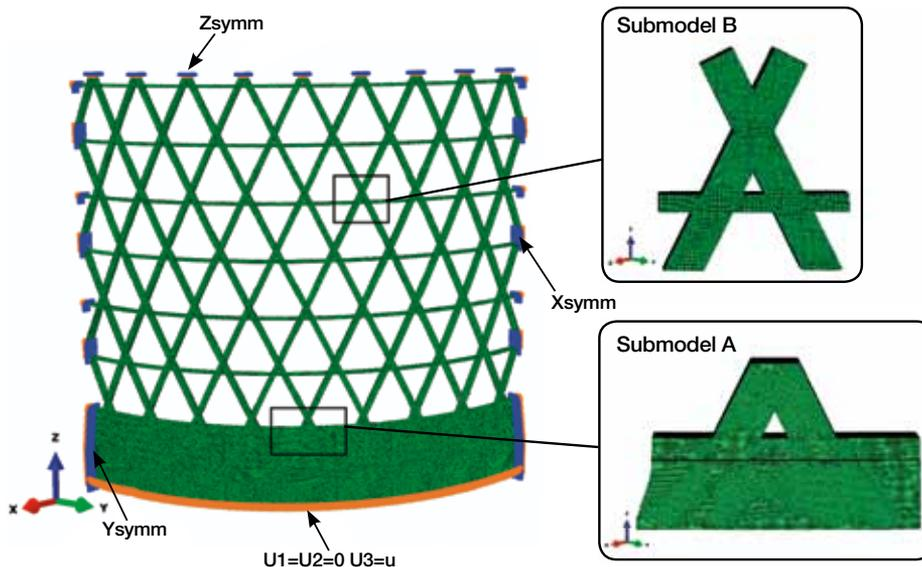

Figure 2. Solid model and submodels to analyze the failure mechanisms of the cylindrical lattice.
Figure 2. Abaqus eXtended Finite Element Method (XFEM) shows a progression of increasing crack growth (left to right), starting in the area of interest on the process vessel's skirt support expansion joint. Dominant circumferential stresses cause a crack to form at the end of the expansion joint. Due to uneven stress in the frame connector above the joint, the crack grows more rapidly on the outside than on the inside of the connector.
team used the XFEM capability in Abaqus coupled with contour integral calculations. "The XFEM method makes it possible to study crack growth across elements in a way not possible before," said Schulz. "The contour integral calculation gives us the ability to analyze stress intensity values for a series of crack depths and shapes." These analyses showed that the greatest stress occurs when the vessel is most rapidly heating up, the stress decreases with increasing crack depth, and the crack grows more rapidly on the outside than the inside of the frame connector (Figure 2).
The second part of the virtual testing procedure consisted of the lattice structure testing simulation to predict the mechanical behavior of the real structure. Due to the size differences between the large-scale structure and the local interactions, the virtual testing was divided into two analyses. A Finite Element (FE) model composed with beam elements (Figure 1) assessed the global structural response—natural frequency and buckling load, while the local failure was obtained with a FE model including solid elements only. In this case, a global model provided the displacements to a local submodel that assessed the failure criteria (Figure 2). The intralaminar failure was calculated with LaRC-04 failure criteria, which account for different composite failure mechanisms and consider nonlinear shear behavior and in-situ effects. The possible adhesive peel-off between the lattice part of the structure and the extreme load interfaces was also analyzed through the following procedure: 1) Determine critical zones using a stress-based criterion, 2) Apply the Virtual Crack Closure Technique (VCCT) with a pre-crack with the measure of the minimum detectable defect and 3) Run a nonlinear analysis involving cohesive elements.